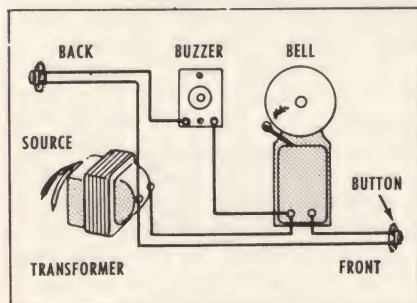

FIG. 78—WIRING FOR DOORBELL AND BUZZER
**DOORBELL AND BUZZER.** A buzzer for the back door and a bell for the front door are usually included on the doorbell-buzzer circuit, through the same transformer. Run wires from one of the transformer terminals to each pushbutton. Next, connect bell and buzzer to respective pushbuttons. Finally, run wire from second terminal of transformer to bell and on to buzzer as shown in Fig. 78. The system is now ready to operate. Each pushbutton will operate its corresponding device only.